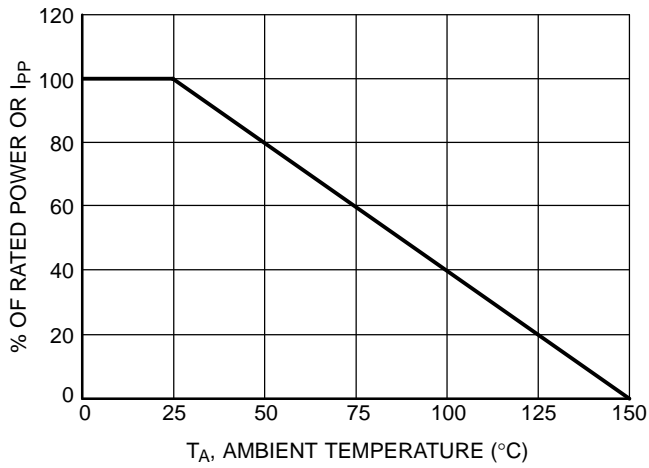

Figure 1. Power Derating vs. Ambient Temperature
1. Non-repetitive current pulse per Figure 1.